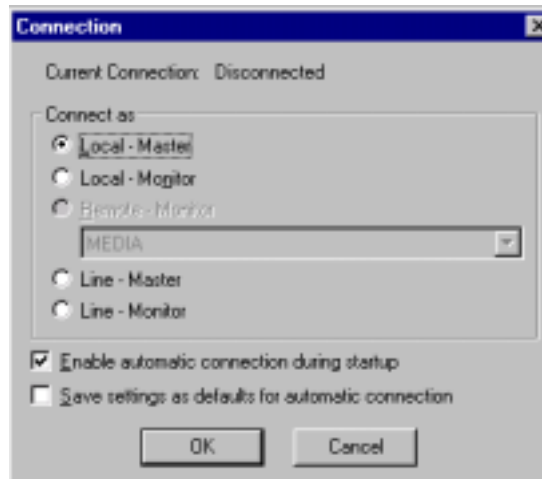

Figure 4-3
7. Select **File > Connection**. The **Connection** dialog box appears. See Figure 4-3.